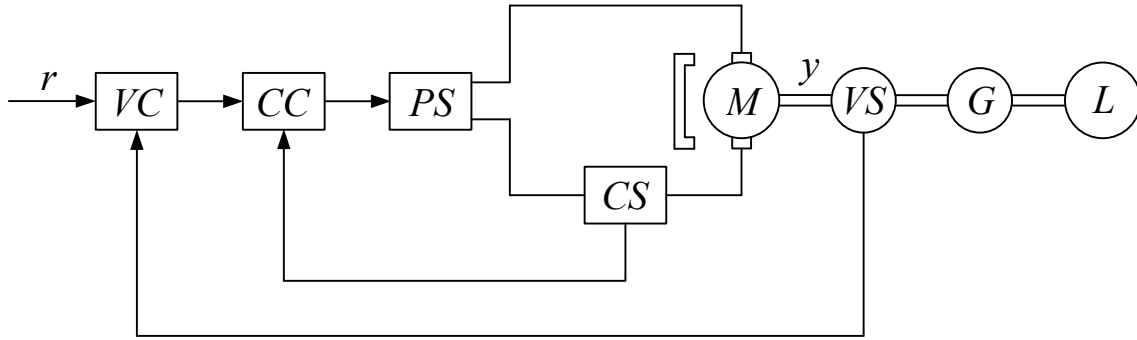

Figure 1 Cascade control of motor angular velocity.
Cascade structure for control of motor angular velocity is shown in Figure 1. The control system consists of the following blocks: velocity controller (VC), current controller (CC), power supply device (PS), current sensor (CS), DC motor (M), velocity sensor (VS), gearbox (G) and load (L). The system has an inner current control loop and an outer velocity control loop.